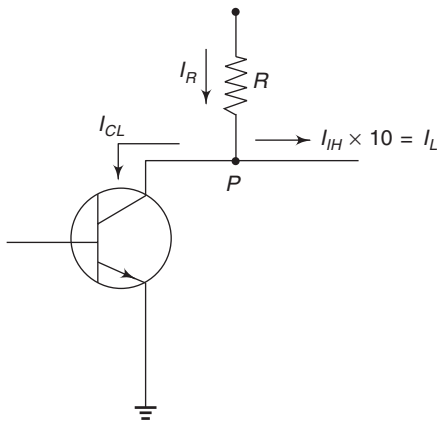

Fig. 9.40
22. Determine the maximum value of the pull-up resistance for an open-collector TTL gate to achieve a fan-out of 10 given that $I_{OH} = 40 \text{ mA}$. The leakage current flowing through the collector of TTL output transistor is 50 mA and $V_{OH(\min)} = 2.4 \text{ V}$. (See Fig. 9.40)